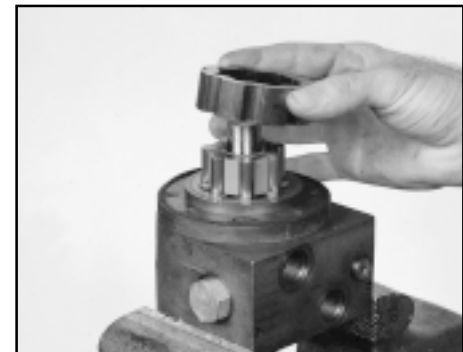

Figure D12
- Remove the outer, rolls, inner and valve plate. SEE FIGURE D12.